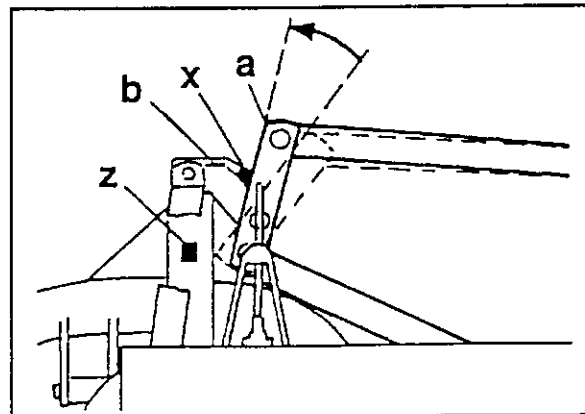
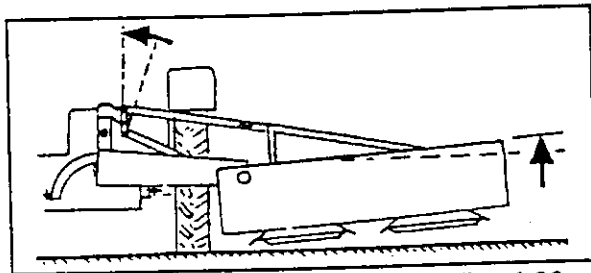

fig. 4-28
fig. 4-30
The lifting rod lever (a) must be positioned against (x). Otherwise the lower part of the lever will hit the stopper (z) and the cap (b) will be bent (fig. 4-28).
5. If the lever (a) (fig. 4-28) isn't positioned against (x), (perhaps because of a lack of grease in the joints) lift the mower support beam slightly by hand (fig. 4-30).